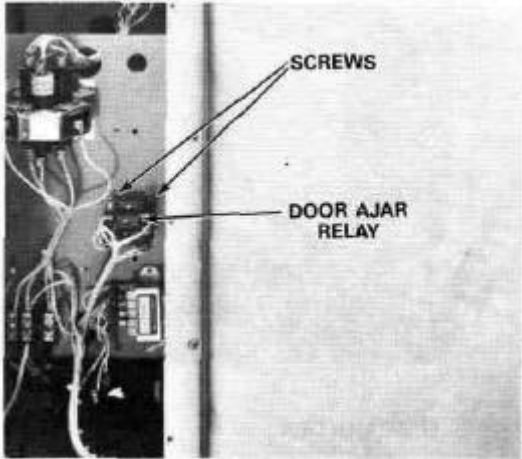

Figure 8
(See Figure 8)
A. Use the 1/16" (2 mm) flatblade screwdriver to loosen the 2 screws holding the switch to the support bracket and adjust the switch downward approximately 1/16" (2 mm). (See Figure 8)